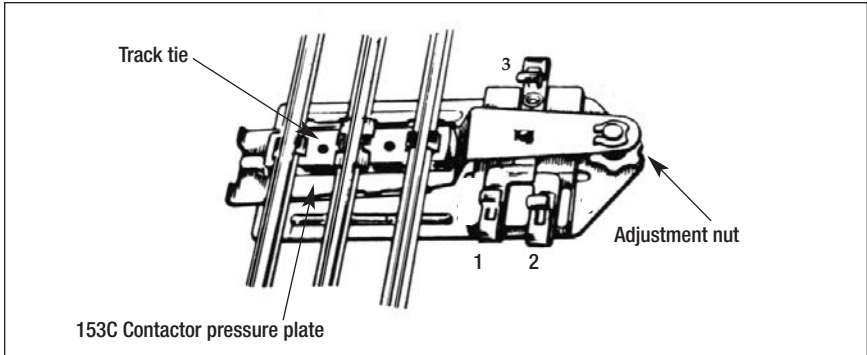

Figure 1. 153C Contactor
The 153C Contactor is activated by the weight of a passing train. Place the Contactor under the track, as shown in Figure 1.
2. Turn the adjustment nut either up or down until the accessory's lights change from green to red. Refer to Figure 1 on page 3 for the location of the adjustment nut.